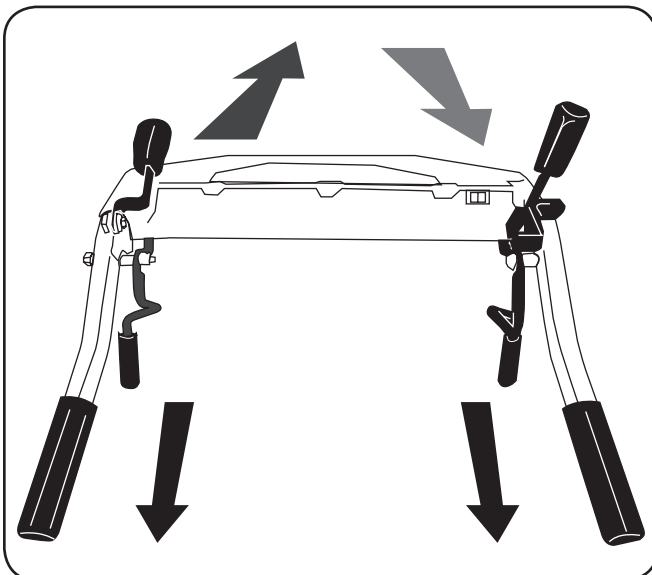

Figure 5-4
- a. Pull the reverse handle back with the neutral handle in the free wheel position and the clutch control bail disengaged to reverse the tines. See Figure 5-4. To stop the reverse motion of the tines, release the reverse handle.